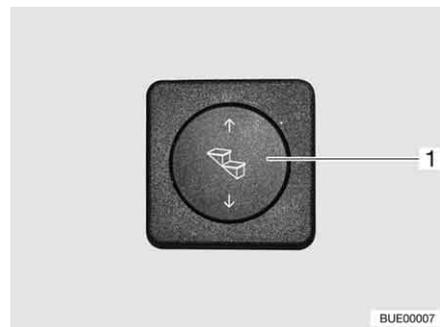

Fig. 12 Operating button for entrance step
- Extending:* ■ Press the rocker button (Fig. 12,1) down and hold it pressed (at least 3 seconds) until the entrance step has extended completely.
- Retracting:* ■ Press the rocker button (Fig. 12,1) up until the entrance step has retracted completely.